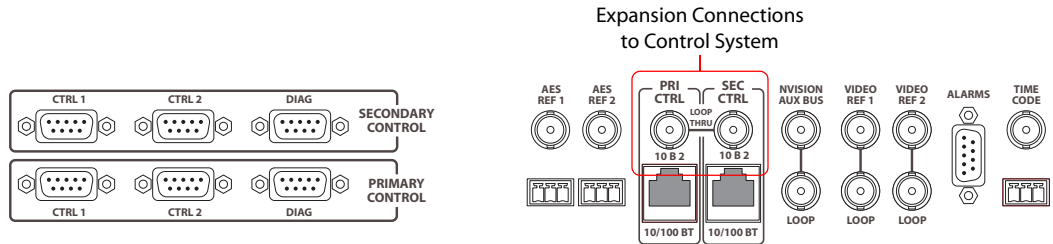

Figure 3-11. Expansion Connections to Control System (Rear View)
- 1 Locate the control system expansion connections on the rear of the two routers, as shown in Figure 3-11. The connections are labeled '10 B 2'.
- 1 Locate the control system expansion connections on the rear of the router, as shown in Figure 3-11. The connections are labeled '10 B 2'. See Figure 3-11.